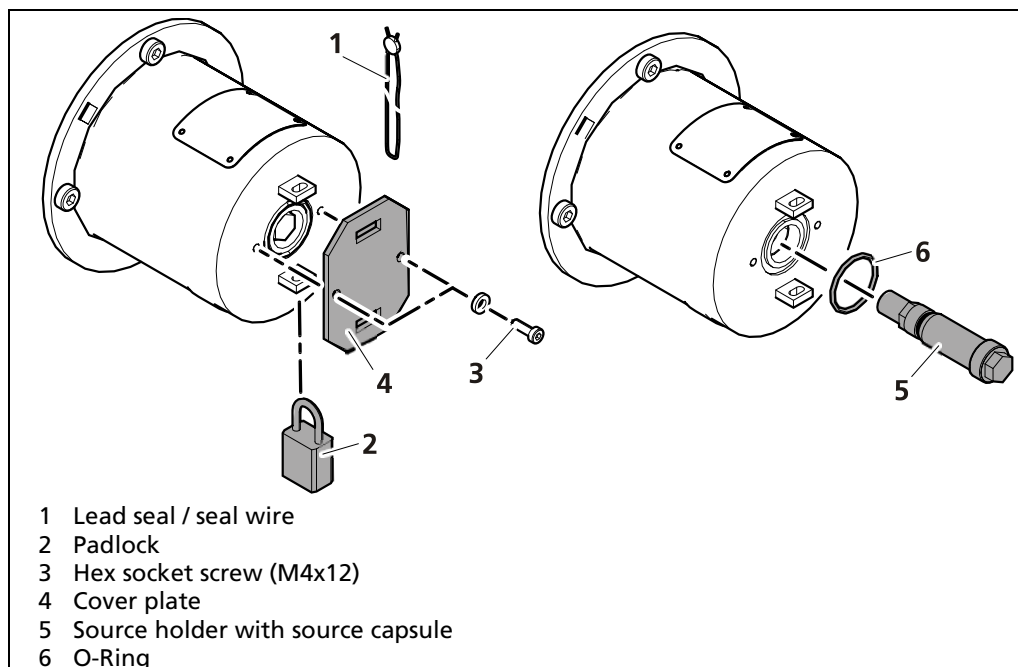

Fig. 7 Removing the source from the shield
2. Remove the seal wire (Fig. 7, item 1) if necessary.
3. Remove the padlock (Fig. 7, item 2).
4. Loosen both hex socket screws (Fig. 7, item 3) and remove the lock washers and the cover plate (Fig. 7, item 4).
- ▶ The head of the source holder (Fig. 7, item 5) becomes visible.
6. Remove the o-ring (Fig. 7, item 6).